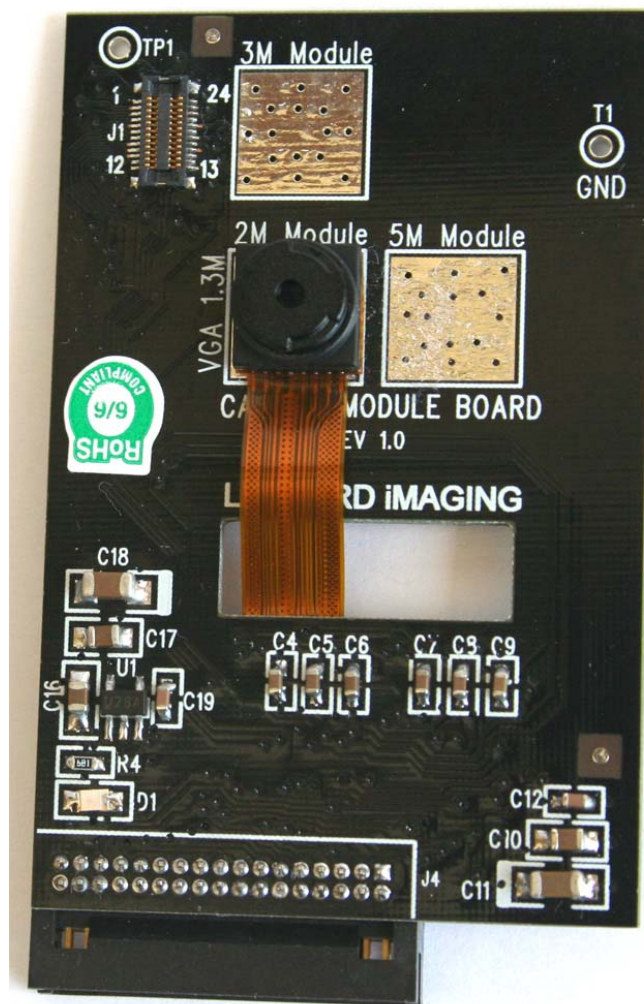

Figure 9. 2M Camera Board
1.3.5.2 2 Mega-pixel Camera Board, see Figure 9